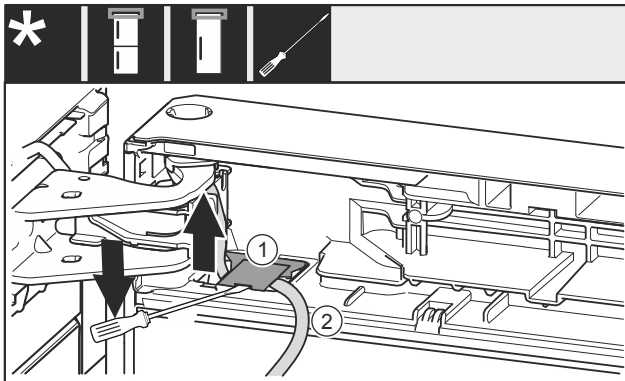

Fig. 22
- ▶ Use the screwdriver to lift up the cover *Fig. 22 (1)* and pull it out.
- ▶ Pull out the cable *Fig. 22 (2)*.